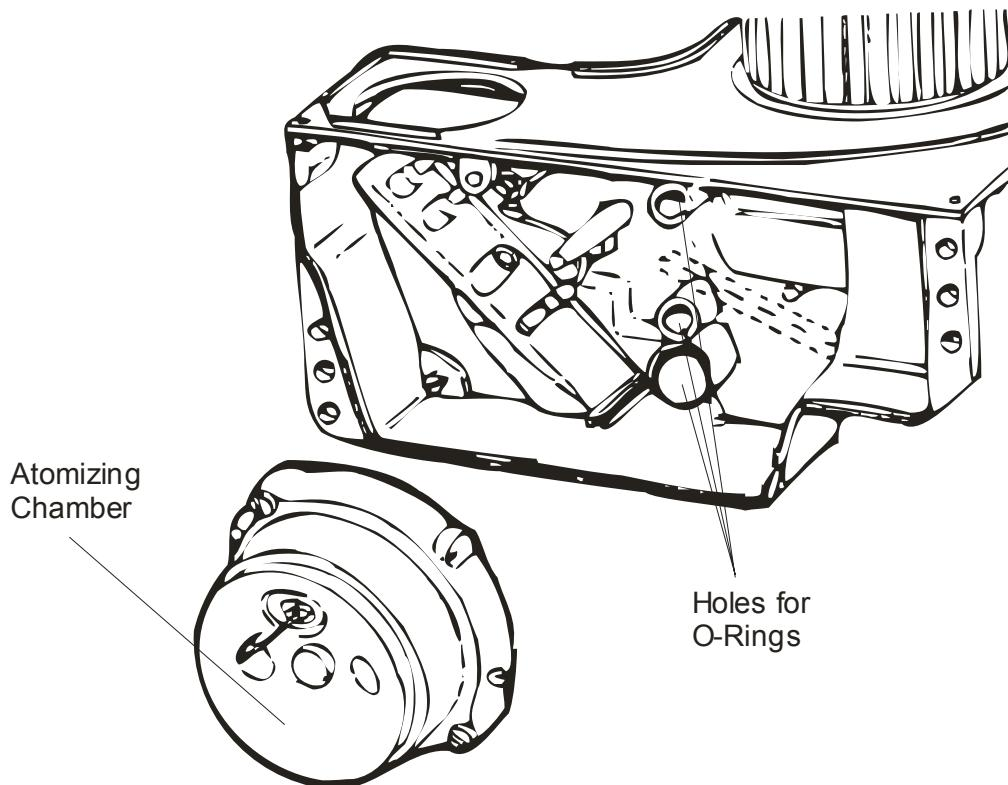

Figure 5-11. Atomizing Chamber Removal
c. Step 3. Remove the atomizing chamber (figure 5-11) and store in a clean container with a plastic tube connecting the air and fuel connections at the back of the atomizing chamber. Removal and installation of the atomizing chamber does not require tools.